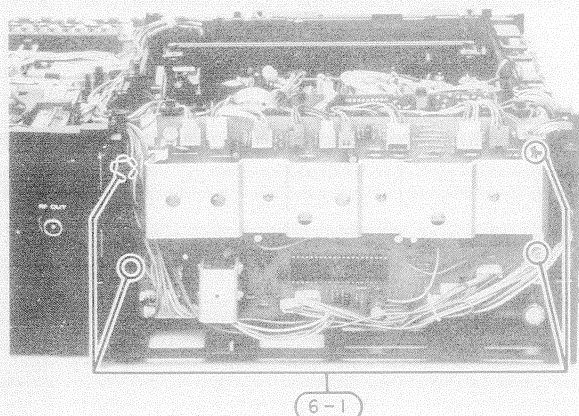

Fig. 15
6. System control PC Board (Fig. 15)
- 2) Remove the system control PC Board (Fig. 15)